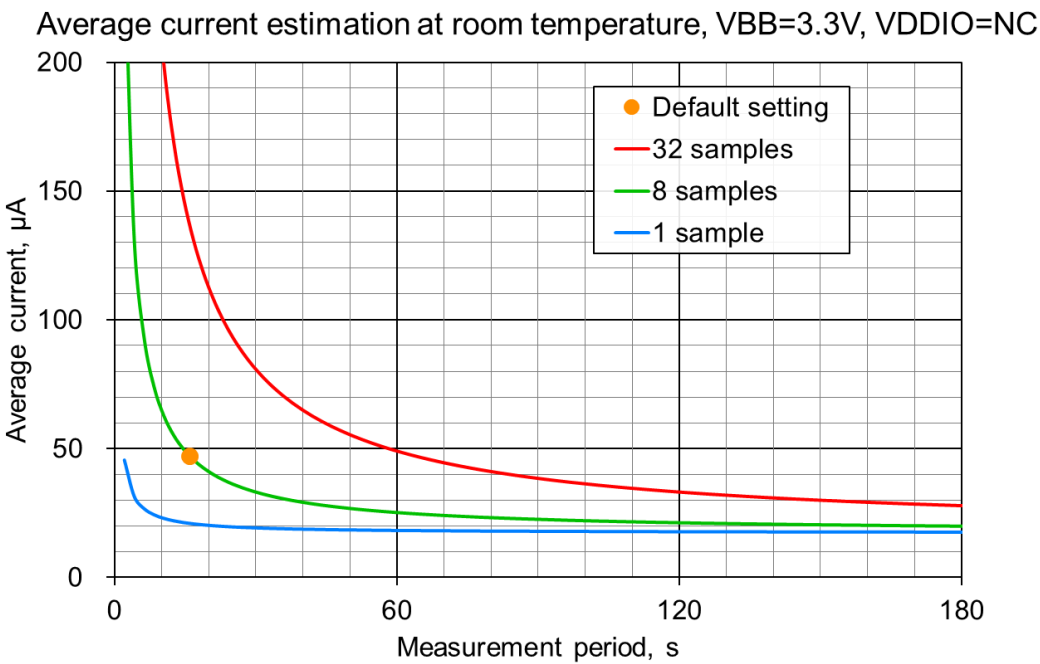

Figure 5 Average current
- Note 8: With default settings and nRDY disabled. See Figure 5 Average current.